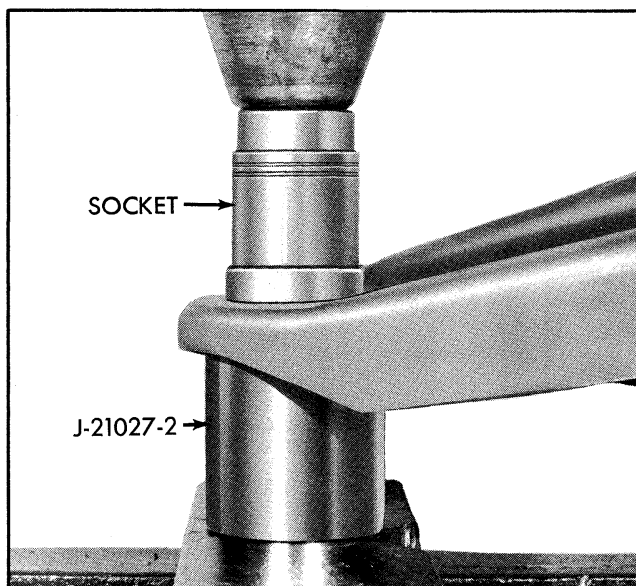

Fig. 3-22 Pressing Ball Joint from Lower Control Arm
1. Using suitable socket as driver and tool J-21027-2 as support press ball joint from control arm as shown in Fig. 3-22.